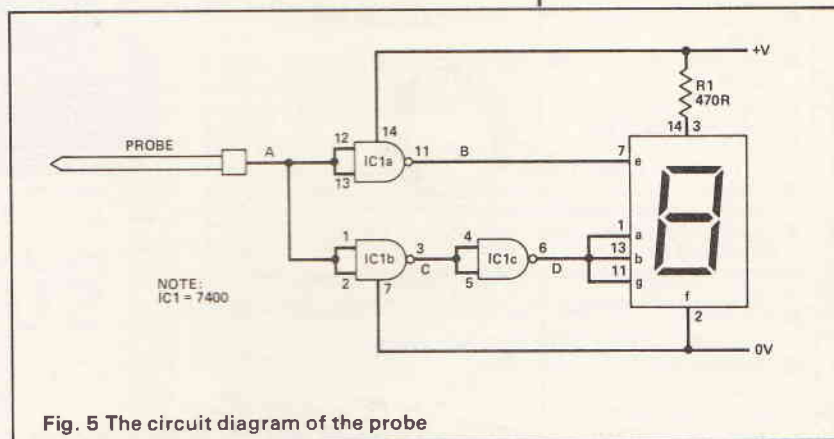

Fig. 5 The circuit diagram of the probe
The circuit diagram of the logic probe is simple in the extreme and is given in Fig. 5. The one IC is a quad NAND gate IC containing four NAND gates of which only three are used. All of these have their two inputs connected together to be used as inverters. Whatever logic level is presented at the input is reversed at the output — a high level (1) input gives a low level (0) output and vice versa.